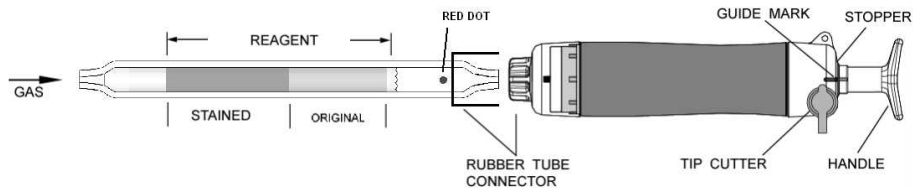

Fig.1
- ② Insert the detector tube into the aspirating pump securely as shown in Fig.1.
- ③ Align the guide marks on the shaft and stopper of the aspirating pump.
- ④ Pull the pump handle at a full stroke until it locks and wait for 1 minute or until the completion of sampling is confirmed with the flow indicator of the pump. (See descriptions about the flow indicator in the instruction manual of the pump.)
- ⑤ On completion of sampling, remove the detector tube from the pump and read the enclosed concentration with the concentration chart in the following way.
- ① Temperature; Correct the tube reading with enclosed temperature correction table.
- ② Humidity; No correction is necessary.